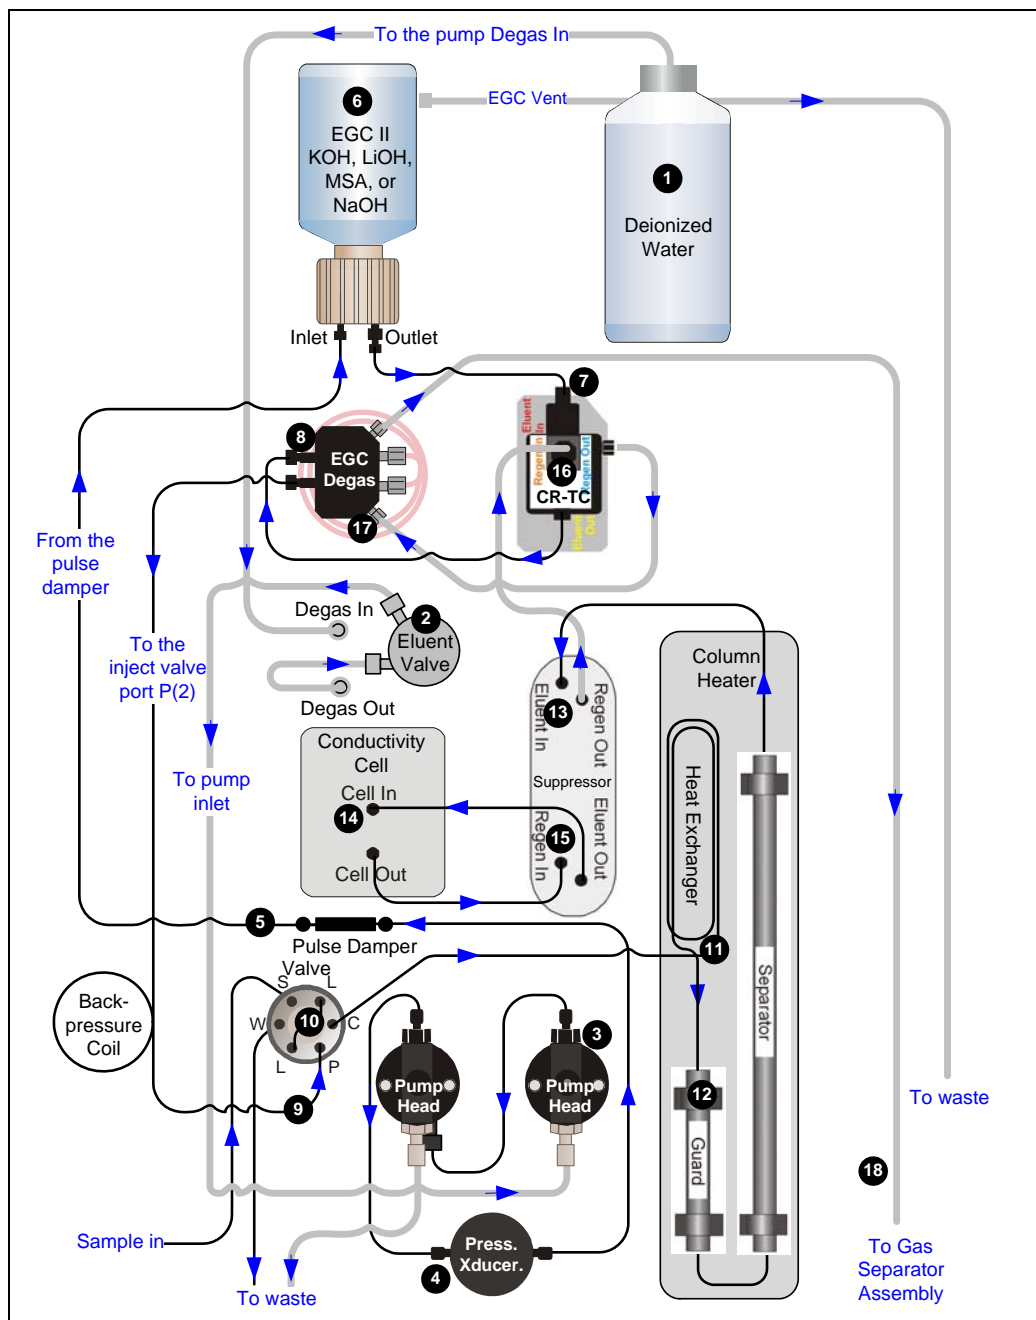

Figure 2-10. Dionex ICS-2100 Flow: KOH, LiOH, MSA, or NaOH Eluent Generation
- Figure 2-10 illustrates the liquid flow path when the components required for producing KOH, LiOH, MSA, or NaOH eluent are installed. The required components include the corresponding type of Dionex EluGen cartridge and a CR-TC.
Refer to Figure 2-10 for the flow path number locations.